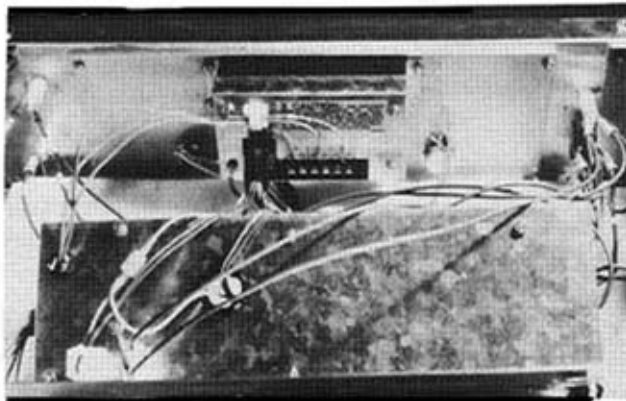

FIG. 3
2. Remove the six (6) screws securing top to side panels and remove top. Save screws for reuse.
3. Remove the two (2) screws securing power board bracket to escutcheon and save for reuse.
4. Carefully lay power board bracket back from escutcheon (See Figure 3).
5. Disconnect the two (2) wiring harness plugs from transformer plugs at power board bracket.
6. Remove the two (2) transformer harness plugs from power board bracket.
7. Remove the two (2) screws and nuts securing defective transformer to bracket and save for reuse.
8. Replace the two (2) screws and nuts securing new transformer to bracket.